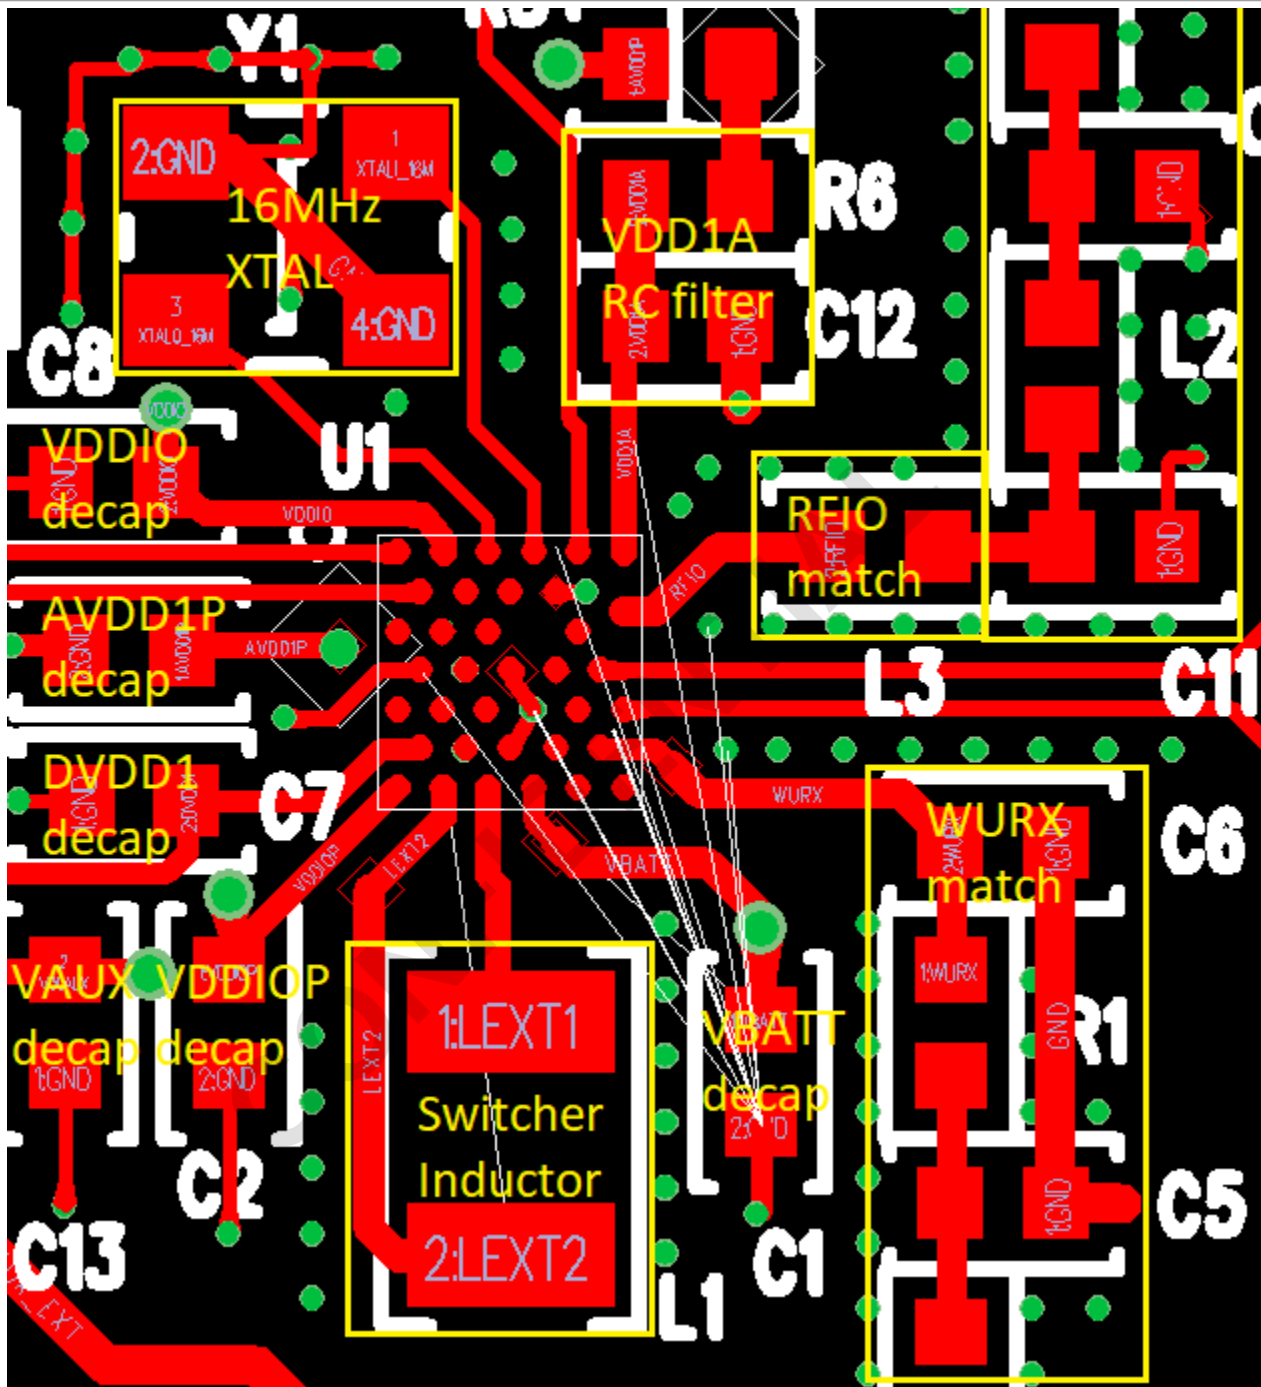

Figure 12 - Power Traces Same Layer Routing Example
- It is recommended to route as many outer-row bumps/pads on the same layer (i.e., try avoiding via) as the ATM2251 - these particularly apply to power traces (such as LEXT1|2, VBATT, VDD1A, VDDIOP & VDDIO, DVDD1), the 16 MHz XTAL traces, and the RF traces (RFIO and WuRX (if applicable)). An example illustration is shown below in Figure 12.